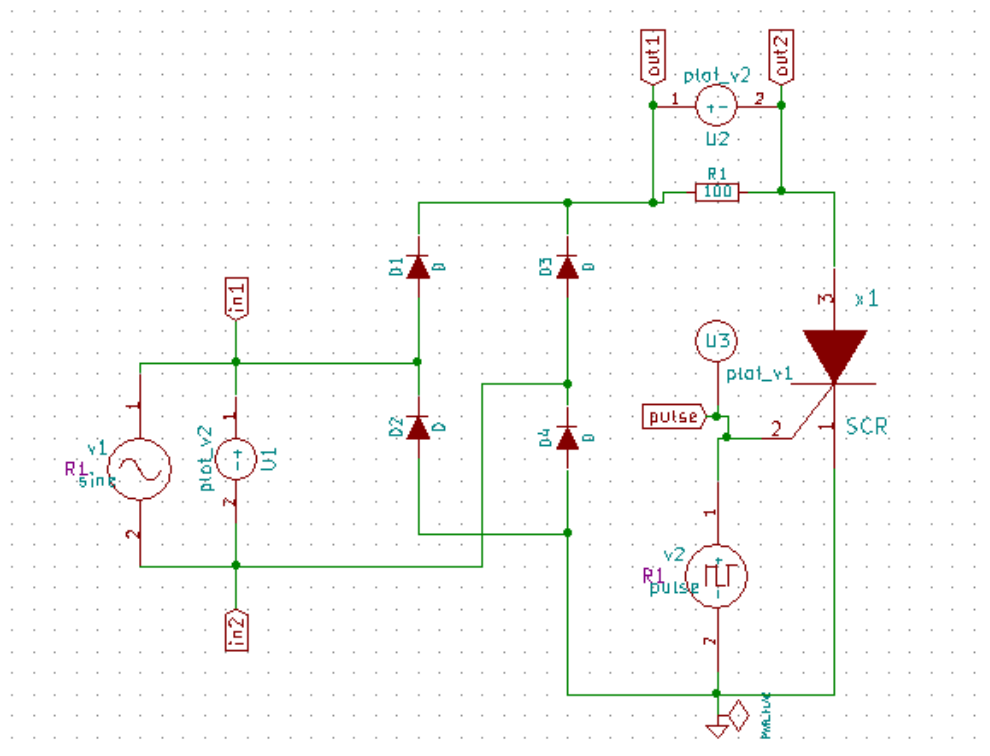

Figure 11.26: Schematic of Full Wave Rectifier using SCR
- **Creating Schematic:** To create the schematic, click the very first icon of the left toolbar as shown in the Fig. 11.2. This will open KiCad Eeschema. After the KiCad window is opened, to create a schematic we need to place the required components. Fig. 11.3 shows the icon on the right toolbar which opens the component library. After all the required components of the Full Wave Rectifier using SCR circuit are placed, wiring is done using the **Place Wire** option as shown in the Fig. 11.4. Next step is **ERC (Electric Rules Check)**. Fig. 11.5 shows the icon for ERC. The Fig. 11.26 shows the complete Rectifier circuit using SCR after removing the errors.